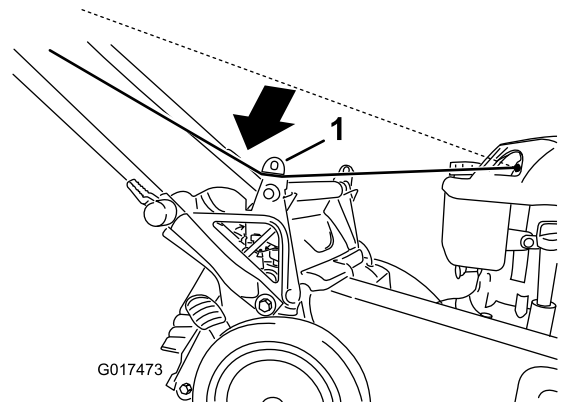

Figure 28
1. Route the starter rope around the lower-rope guide (Figure 28).